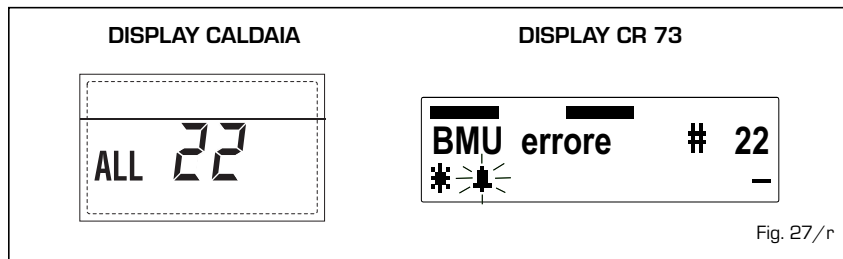

Fig. 27/r
- **ANOMALIA GUASTO SONDA MANDATA SECONDA ZONA MISCELATA "ALL 23 - # 23"** (fig. 27/s)